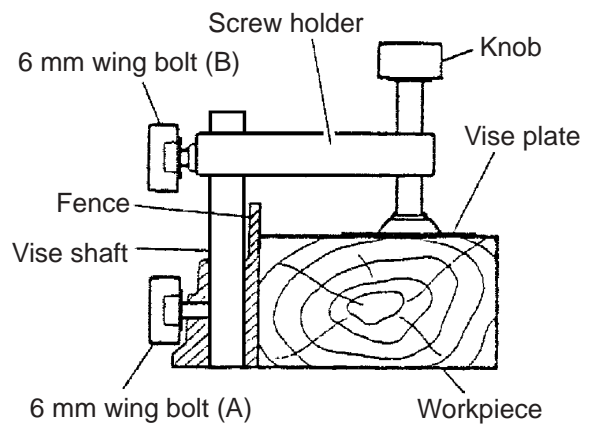

Fig. 18
- (1) The vise assembly can be mounted on either the left fence (fence (B)) or the right fence (fence (A)) by loosening 6 mm wing bolt (A).
- (2) The screw holder can be raised or lowered according to the height of the workpiece by loosening 6 mm wing bolt (B). After the adjustment, firmly tighten 6 mm wing bolt (B) and fix the screw holder.
- (3) Turn the upper knob and securely fix the workpiece in position (Fig. 18).